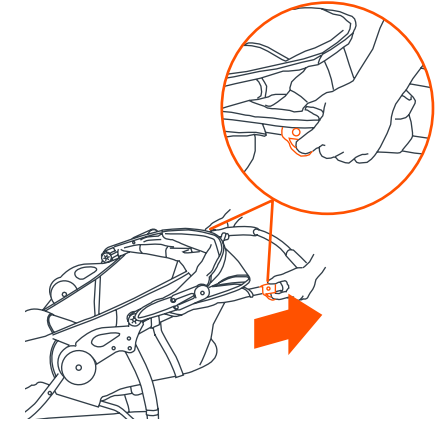
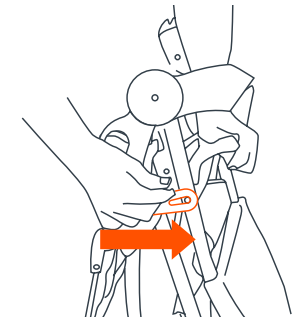

Fig. 18a
Fig. 18b
- The stroller is folded by simultaneously pulling each trigger fold (Fig. 18a). When the fold latches are released, the handle will begin to fall toward the floor. Release the fold buttons and press downward on the stroller handle until the stroller is completely folded. Secure the stroller in the folded position by locking the fold latch, located on the right side of the stroller, over the rivet that protrudes from the frame (Fig. 18b).